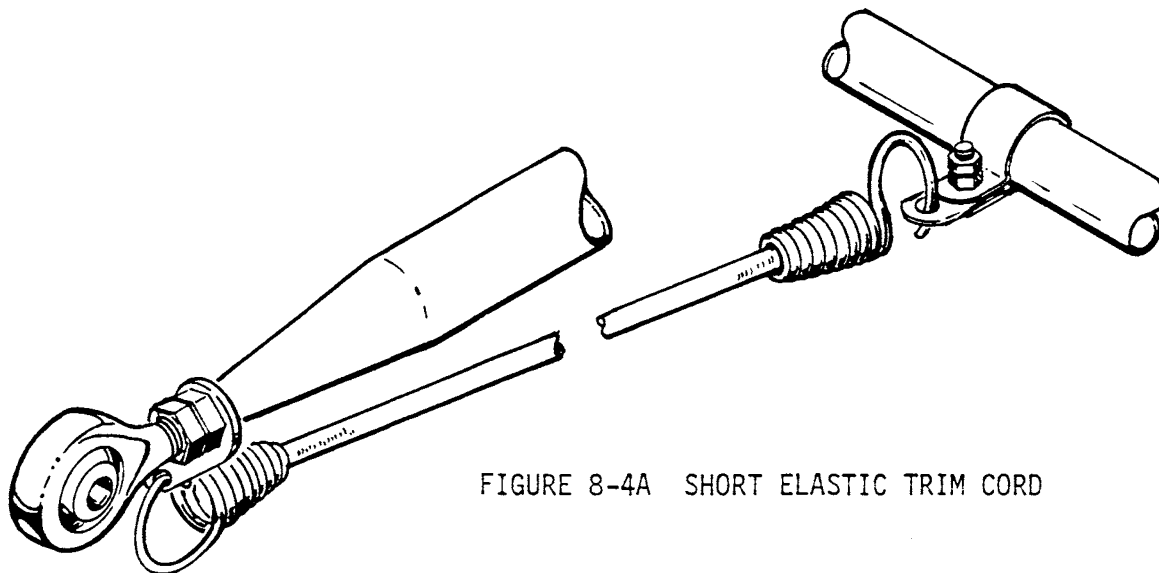

FIGURE 8-4A SHORT ELASTIC TRIM CORD
- c) If short elastic trim cord installed as shown in Figure 8-4A, unhook trim cord at front tab of A121-1 push-pull tube and at clip mounted to support to remove trim cord.
- a) Ensure clamp and clip are installed per Figure 8.4A
- b) For short cord installation see Figure 8-4A